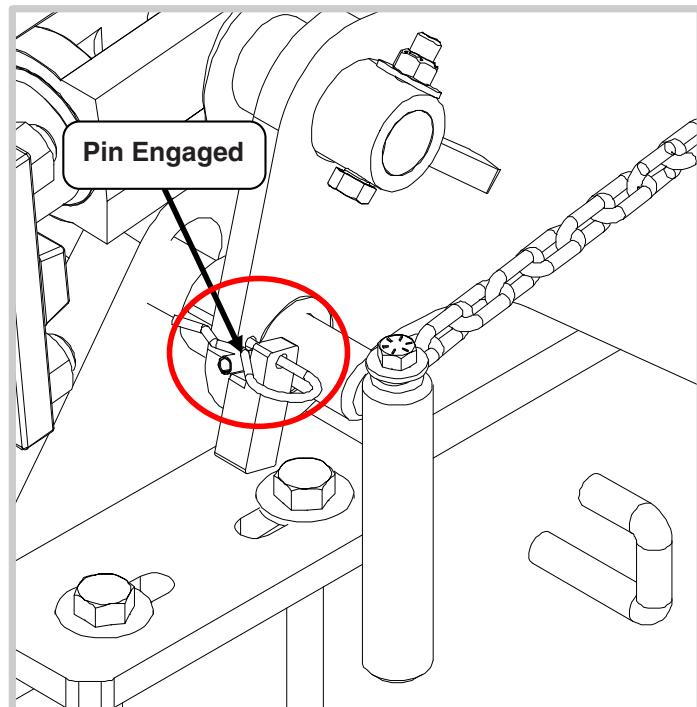

FIGURE 9
8. **Ensure the Main Lift transport pin is properly engaged. The roll pin must be locked into the tab in the frame and cotter pin installed (fig 9). If this is not properly engaged DAMAGE WILL OCCUR.**
- Adjust the down pressure by moving the spring position on the top of the lift arm, in holes A-C and D (fig 9).